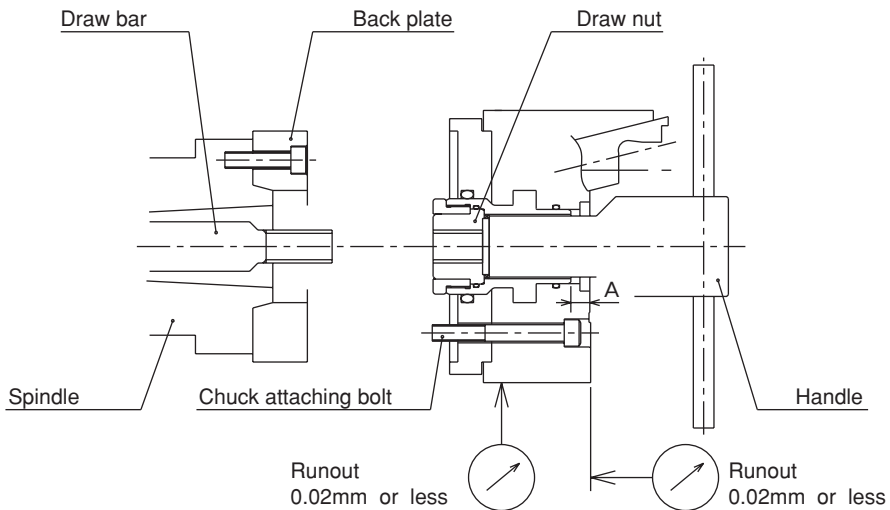

Fig. 13
- Turn the draw nut counter-clockwise up to the full stop, and after this, turn it clockwise for about 270-360 degree to stop it at the position where ratchet hooks. Confirm that the dimension A is within the range shown Fig.13.